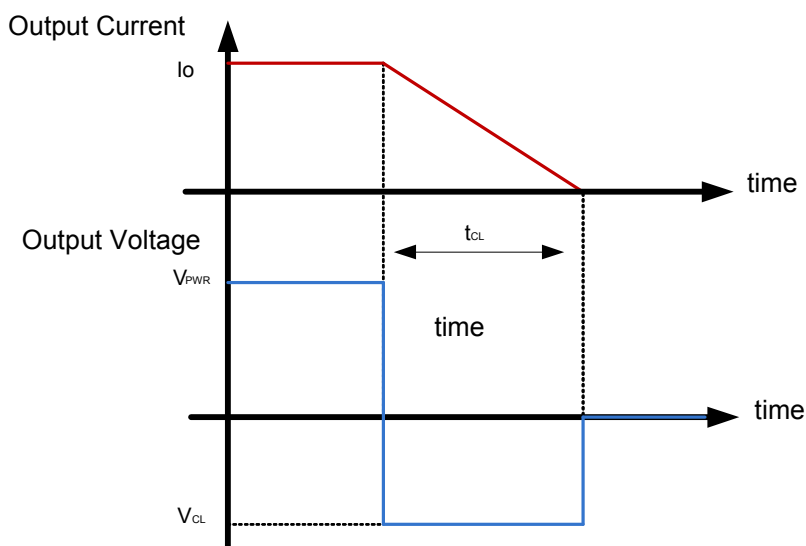

Figure 21. Simplified negative output clamp waveform
In case of an inductive load (L), the energy is dissipated after the turn-off inside the N-channel MOSFET. When $t_{CL} (= I_o \times L / V_{CL}) > 1.0\text{ ms}$, the turn-off waveform can be simplified with a rectangle as shown in Figure 21.